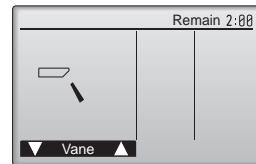

Fig. 7-6
- ① Check the auto vane with the **F1** **F2** buttons. (Fig. 7-6)
- ② Press the **▷** button to return to "Test run operation".
- ③ Press the **⊕** button.